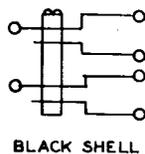

Fig. 1—327A or B Plug
2.01 327A and B: The 327A and B (Fig. 1) are flexible, twin-plugs with a groove on one side of the shell to designate the proper way of inserting the plug into the jack.